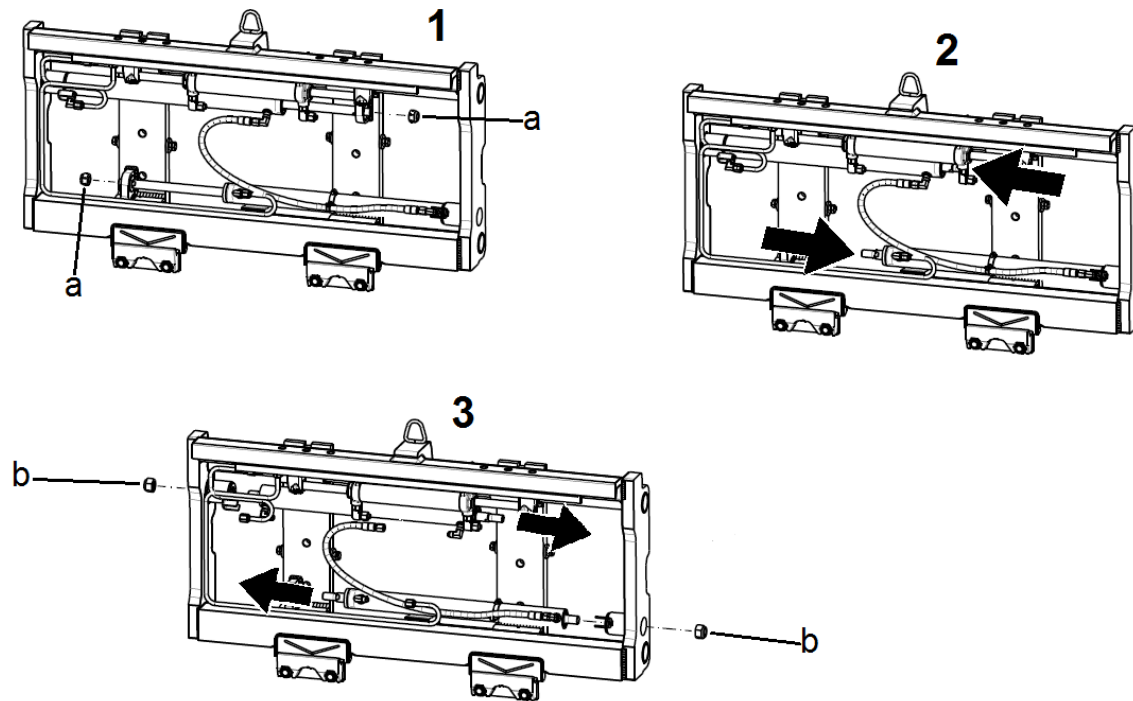

Fig. 040
7.5.3. Remove the nuts from the cylinder rod "a", Fig. 040 (for the wrenches refer to 7.4.3.).
7.5.7. Remove the nuts from the bottom of the cylinders, "b", Fig. 040 (ISO 1174 30 mm socket wrench for loads up to 3.6 t, 41 mm for 5 t, 50 mm for class 4).